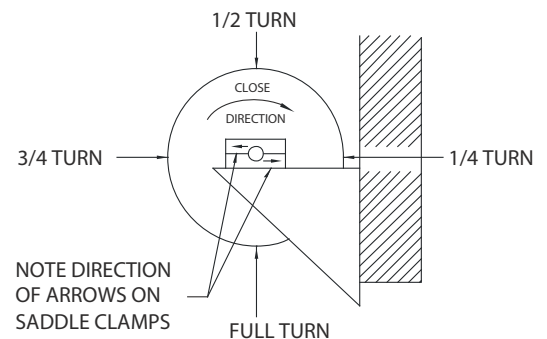

Figure 4
4. Curtain assembly counterbalance springs will have to be wound during the installment procedure. It is essential that the curtain bottom bar be positioned correctly when placing curtain assembly on headplates. A reference point marked on the curtain ring and door shaft is required to neutralize the spring before clamping the door shaft. See Table 3, Page 9, for the initial turns required to wind counterbalance springs, then locate bottom bar accordingly. (**NOTE:** Incorrect number of turns will affect door operation. See directions on sheet 7 for adjusting spring tension. **EXAMPLE:** If the number of initial turns is 1 and ½, locate bottom bar at the ½ turn position (Figure 4). Step 8 will explain the winding procedure.
- A. Starting at the ½ turn position, rotate curtain assembly on door shaft 1 and ½ turns in the "CLOSE" direction (See Figure 4).